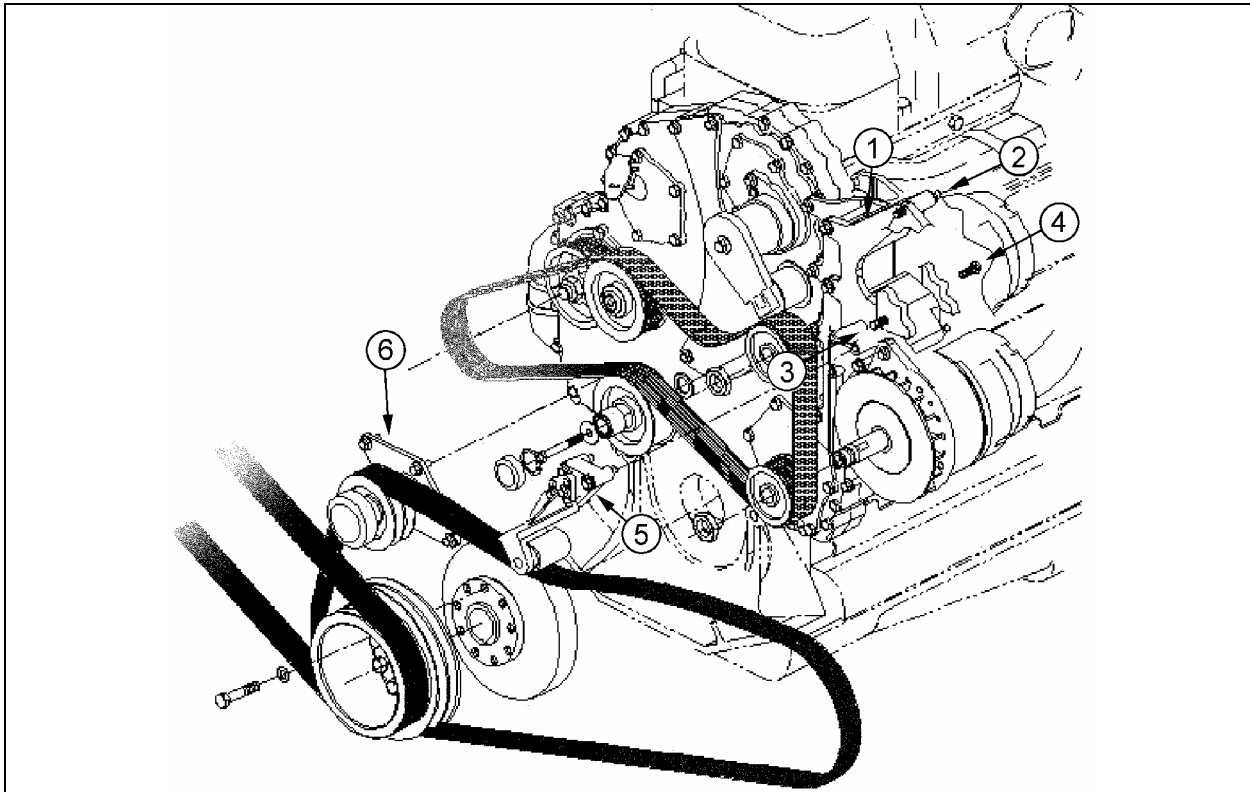
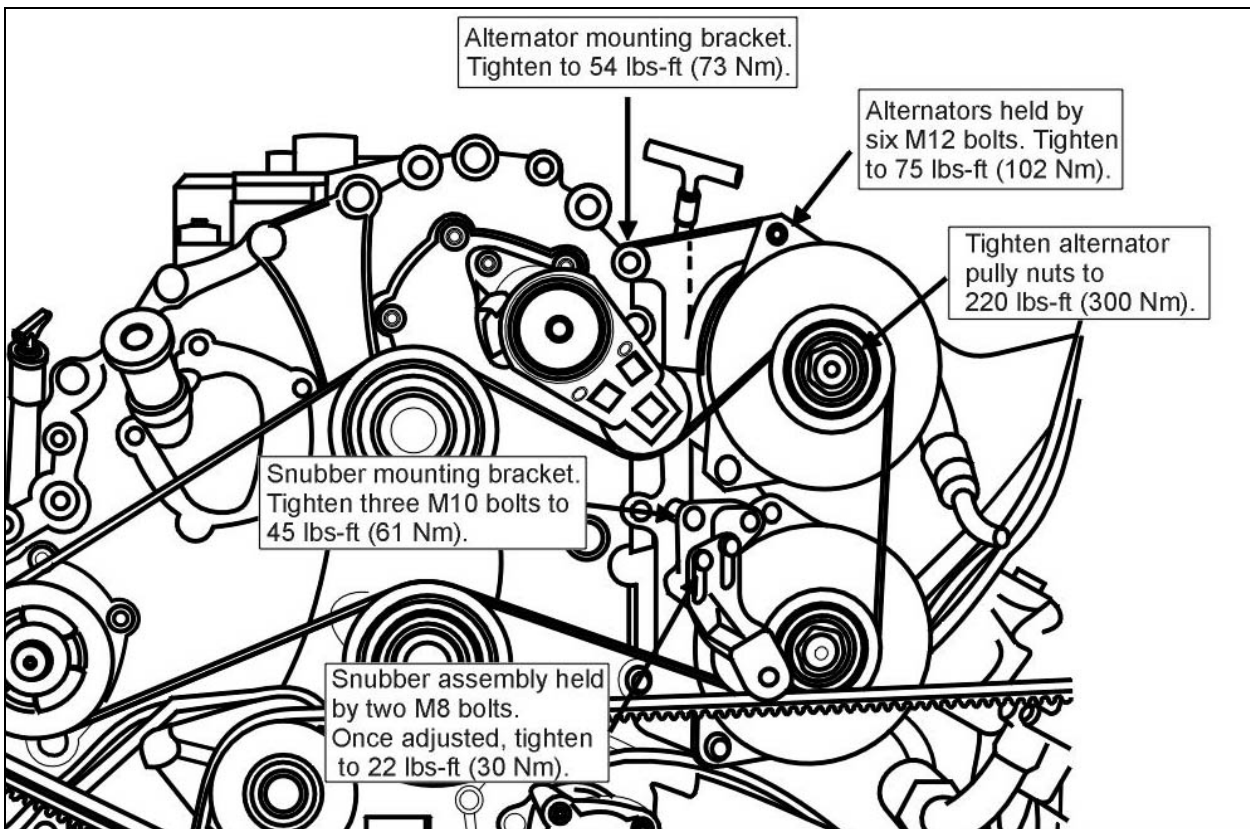

FIGURE 28: TWIN BOSCH ALTERNATORS INSTALLATION
FIGURE 29: ALTERNATORS AND ACCESSORIES MOUNTING TORQUES
If the alternators needed to be removed, reinstall as follows. Refer to figure 28 for installation and to figure 29 for tightening specifications:
1. Install alternator mounting bracket (1, figure 28) to the gear case. Use the four flanged phosphor alloy bolts on the pulley end of the bracket and the flanged nuts at the transmission end of the bracket;
2. Bolt the alternators to the bracket using the three inch bolt at the top of the upper alternator (2, fig 28) and flanged bolts at the other mounting bosses (3 and 4, figure 28). Tighten the bolts in the sliding sleeves (4, figure 28) last as they will adjust to prevent breaking the alternator mounting bosses upon final tightening. Repeat for the second alternator;
4. Install the snubber bracket (5, fig. 28) using three flanged bolts. Do not tighten the adjustment bolts on the snubber until after final tightening;
5. Install the compressor belt idler pulley (6, fig. 28) as shown. A stud inserts into one of the mounting holes of the pulley assembly. Fasten this one using a nut and bolts for the other two.